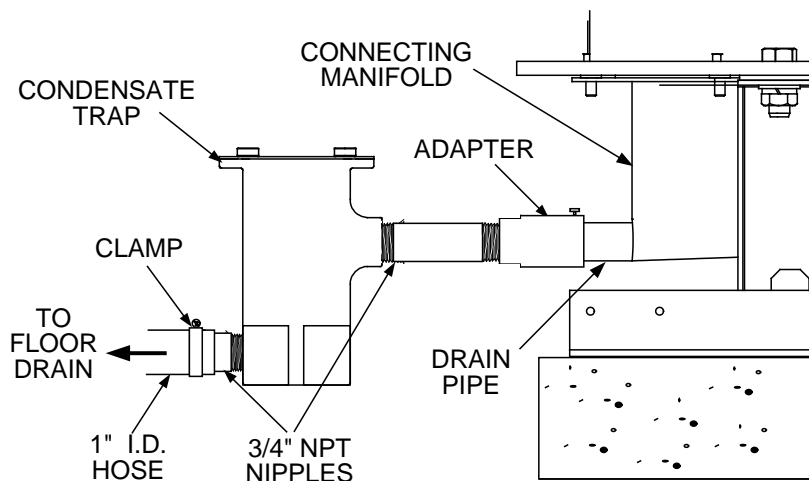

Figure 11. Connecting Manifold Condensate Drain Location
7. Check the condensate drain pipe on the exhaust manifold (Figure 11) to ensure it is clear of blockage.
11. Replace the condensate trap cover and tighten the four (4) thumb screws.